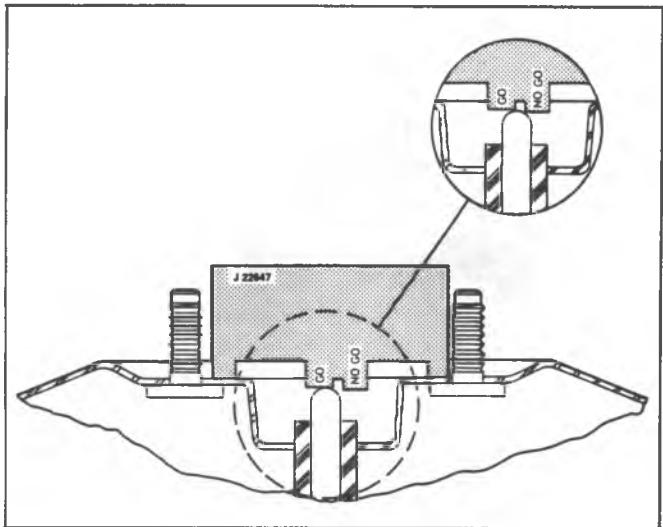

Fig. 5-5D--Gauging Piston Rod
5. Place Gage J-22647 over the piston rod in a position which will allow the gage to be slipped to the left or right without contacting the studs (fig. 5-5D).